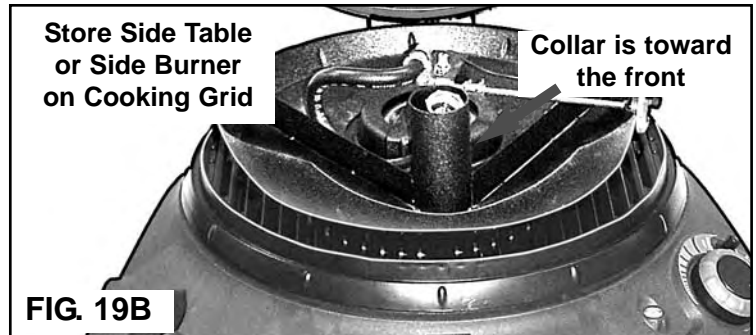
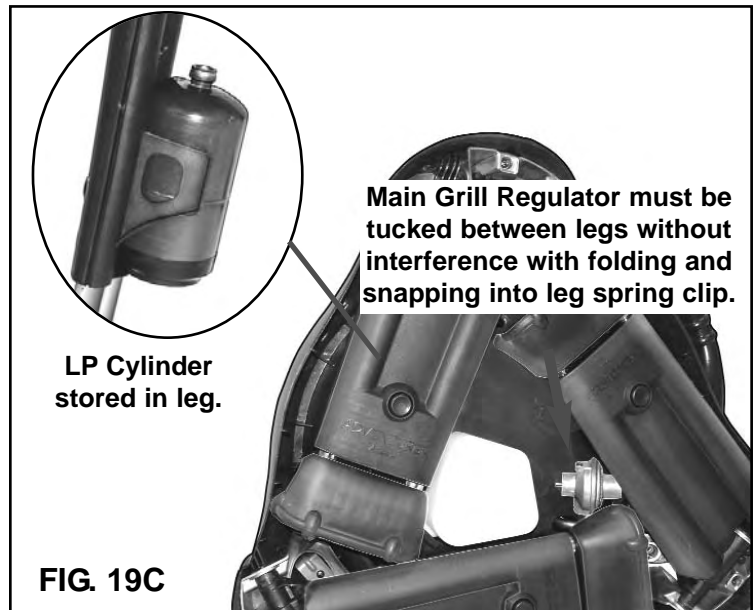

FIG. 19B
FIG. 19C
b) Remove the two screws from the housing. (FIG. 19B) Hold the knob and lift the housing off. Check the burner inlet holes. Use a pipe cleaner to clear insect nests from the Burner inlet hole. (FIG. 19C) Replace the housing and two screws.
- b) Place Side Burner (or Side Table) upside down on the Cooking Grid under the Hood. **(FIG. 19B)** Make sure the collar is toward the front so the hood will close.
- c) Close and latch the Hood. Secure the 1 pound. LP gas cylinders in the leg holders and fold the legs under the grill. **(FIG. 19C)**